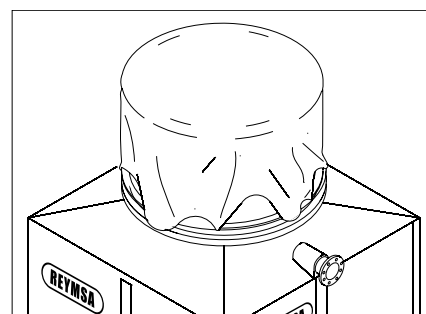

Figure C-13: Fan discharge covering
- To avoid any ice formation due to rain or snow and keep out dirt from inside and outside the towers components, covered them. Especially the fan discharge opening. (As shown in Figure C-13) Taking advantage that the system is turned off, you may want to do Tower service and maintenance. (Adjust motor base screw, balance and adjust fan assembly, clean the inside and outside of the equipment).